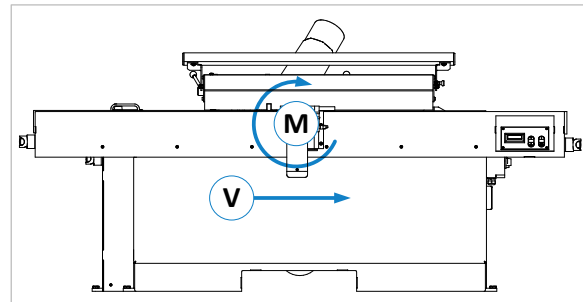

Figure 23: Direction of rotation and feed direction
Note: Also check the correct direction of rotation of the cutter block (M) and the running direction of the feed (V), see arrow directions in ⇨ Figure 23.